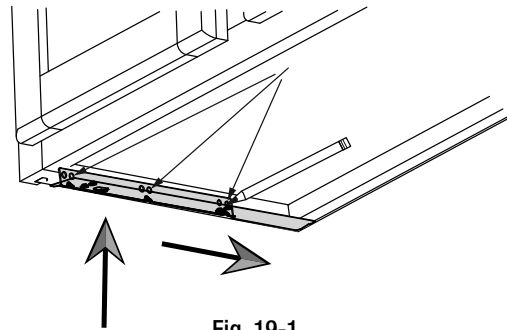

Fig. 19-1
- Align the bracket against the inside edge of the 30 in (762 mm) cabinet cabinet frame and the back wall. Mark the location of 3 holes (out of the available 6 holes) as shown in fig. 19-1.